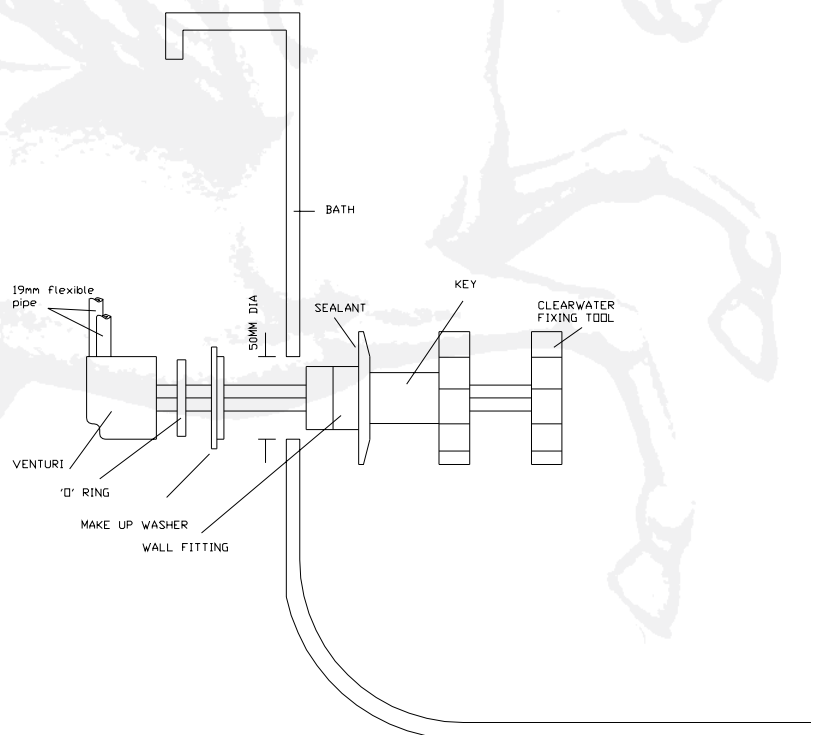

FIG 4
b) Assemble an 'O' ring to each of the Venturi and place a band of silicone sealant around the wall fitting shoulder. See Fig. 4. Using the fixing tool, fit the Venturi to the bath with the spigots at approximately 45 degrees above horizontal pointing towards the pump, ensure the make-up washer is in position and tighten wall fitting into Venturi. **Important Note: - Do not overtighten as damage to the venturi could result.**